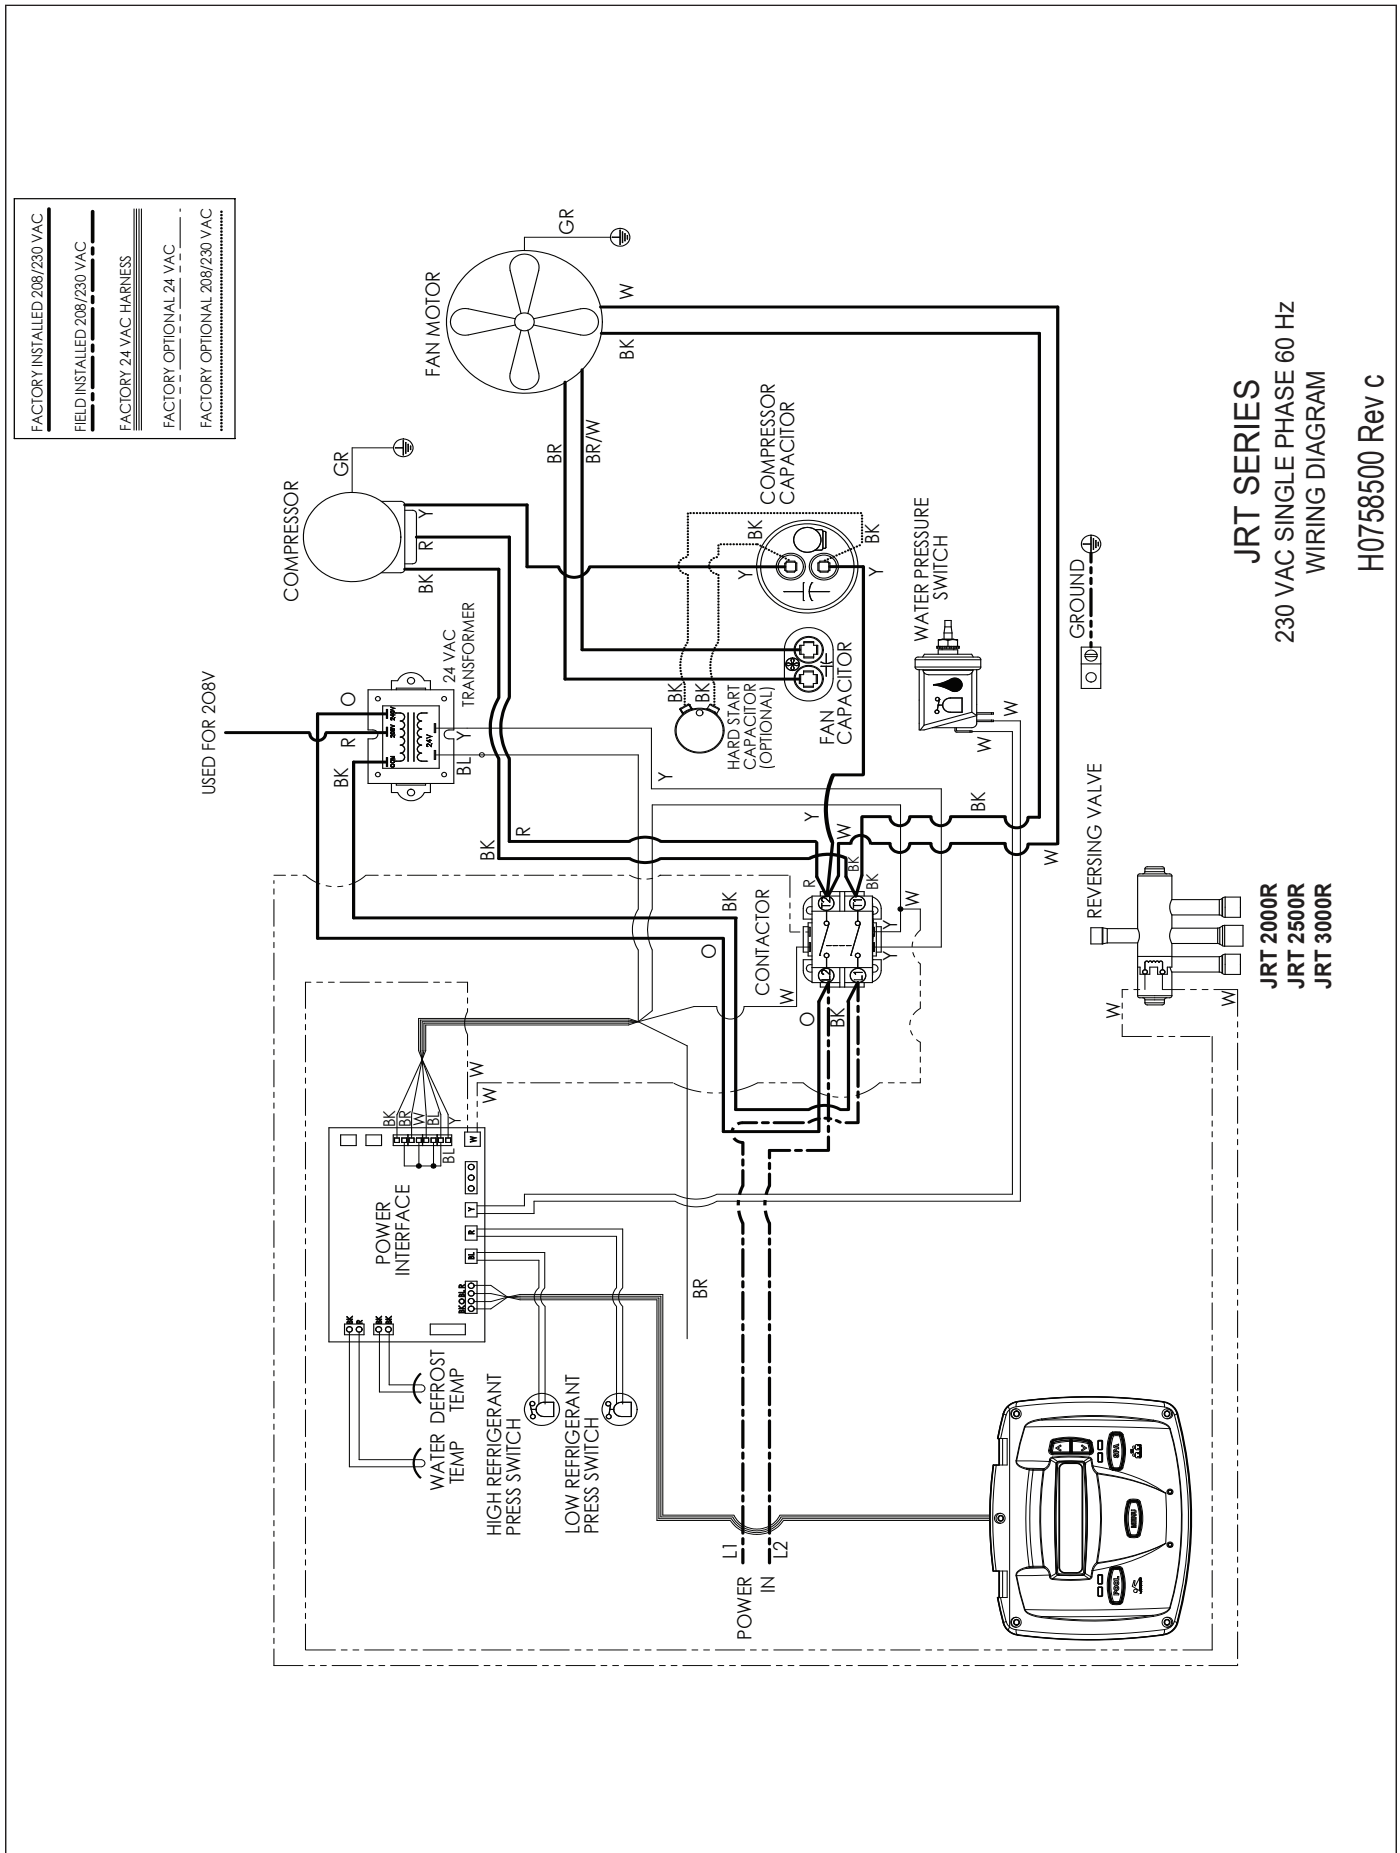
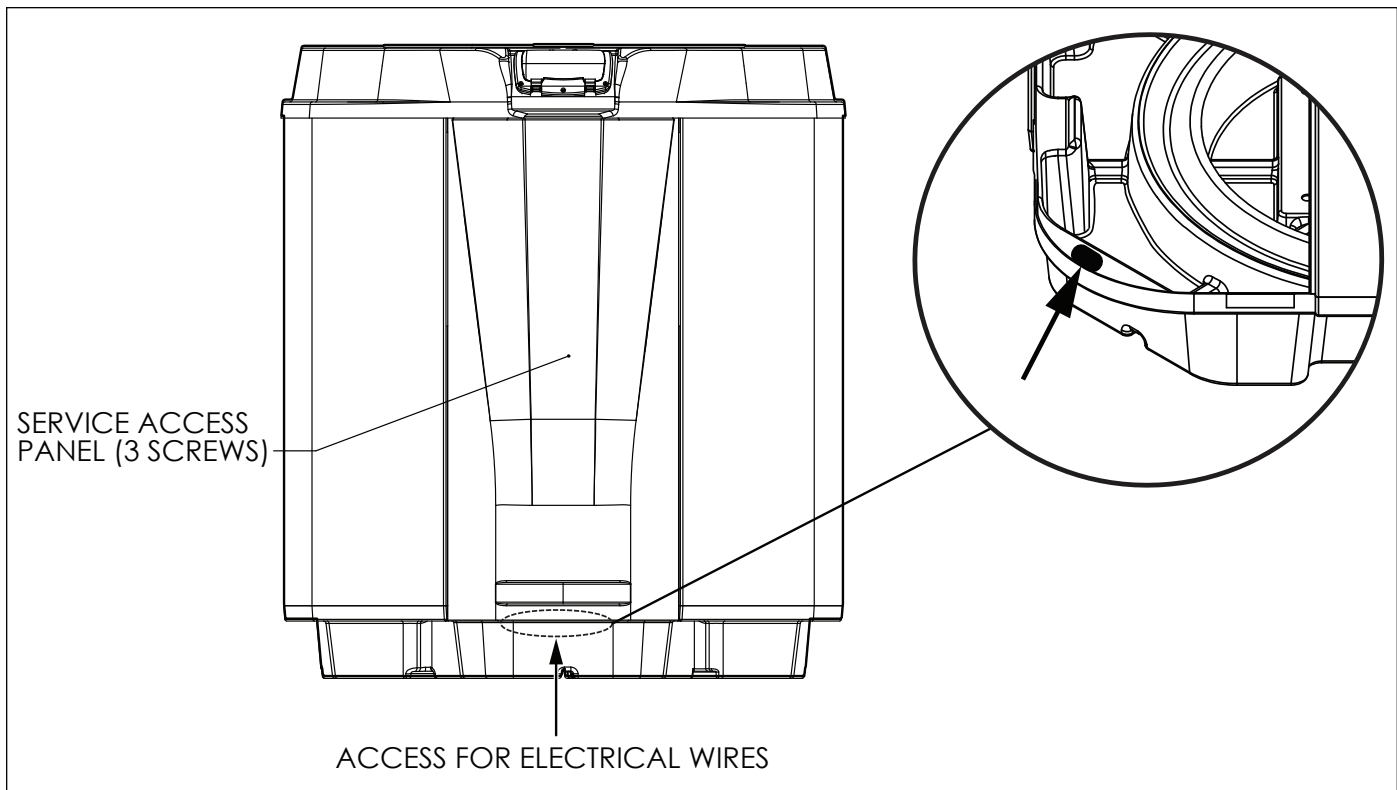

Figure 8. JRT Single-Phase Electrical Supply Wiring Diagram
Figure 9. Jandy JRT Heat Pump Front View
Wiring connections must be made exactly as shown in the wiring diagram found on the inside of the heat pump access compartment (see Figure 8 for single phase electrical wiring). The heat pump must include a definite means of grounding and bonding. There is a bonding lug on the right side of the heat pump, where a bond wire must be attached.
2. Remove the three (3) screws that attach the service/access panel to the heat pump unit (see Figure 9).
8. Connect the wires to the terminals on the main contactor as shown in the wiring diagram. See Figure 8.
2. Remove the screws that attach the service/access panel to the heat pump unit and the cover to the junction box (see Figure 9).
3. Run the wires from the pool/spa control system into the conduit connection labeled “Low Voltage Connection”, located on the lower right hand side of the heat pump (see Figure 9).
2. Remove the screws that attach the service/access panel to the heat pump unit and the cover to the junction box (See Figure 9).
3. Run the wires from the pool/spa control system into the conduit connection labeled “low voltage connection”, located on the lower right hand side of the heat pump (See Figure 9).
2. Remove the three (3) screws that attach the front panel to the heat pump and remove the front panel. See Figure 9.
5. Run four (4) 22 AWG solid copper wires into the low voltage soft membrane located on the lower left-hand side of the heat pump. The wires may be up to 300 feet (91.4 m) in length.
6. Connect the wires to the 4 position terminal on the lower left-hand corner of the Power Interface PC Board, labeled “User Interface1”. See Figure 8. The wires will be added to the existing wiring to the User Interface installed on the heat pump.